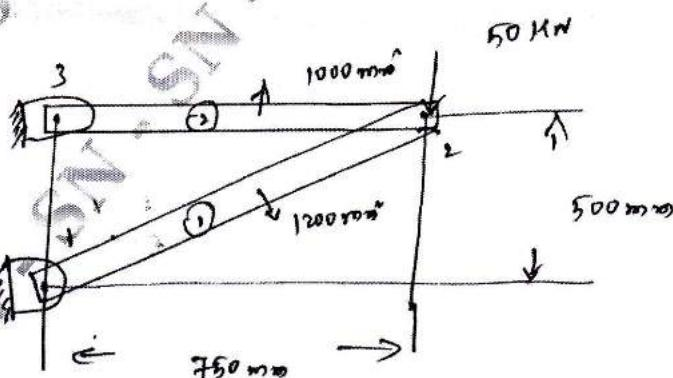

Fig. Q6 (b)
b. For the two bar truss shown in Fig. Q6 (b), Determine the nodal displacement and the stress in each member. Also find the support reaction. Take $E = 200 \text{ GPa}$.